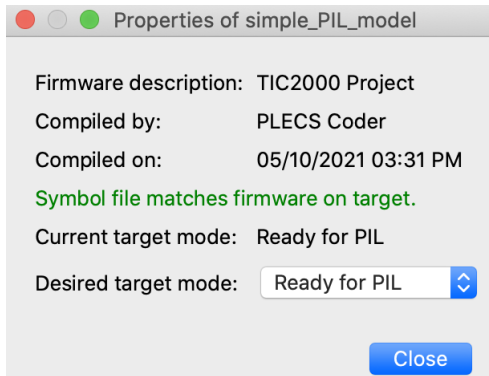

Figure 4: PIL target properties
- Next, click on the **Properties** button to verify that the symbol file is matching the firmware on the target, as shown in Fig. 4.